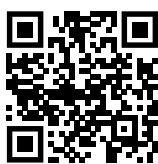

Fig. 98
- ▶ Open Liebherr SmartMonitoring Dashboard. (see Fig. 98)